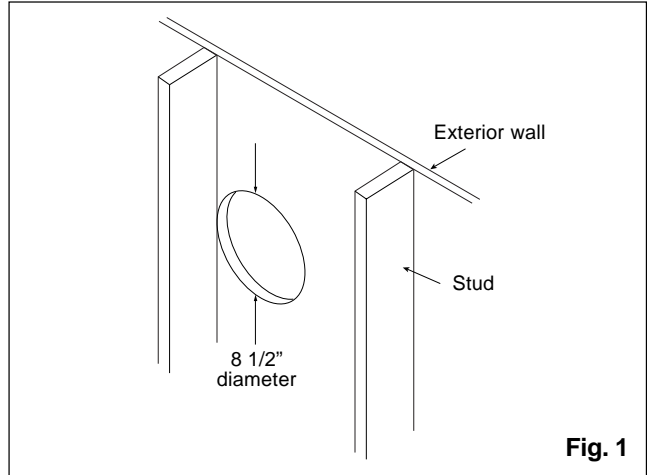

Fig. 1
1. Cut a 215 mm (8 1/2") diameter hole in the wall. (Fig. 1) (Cut the hole next to a wall stud as shown in the figure.).